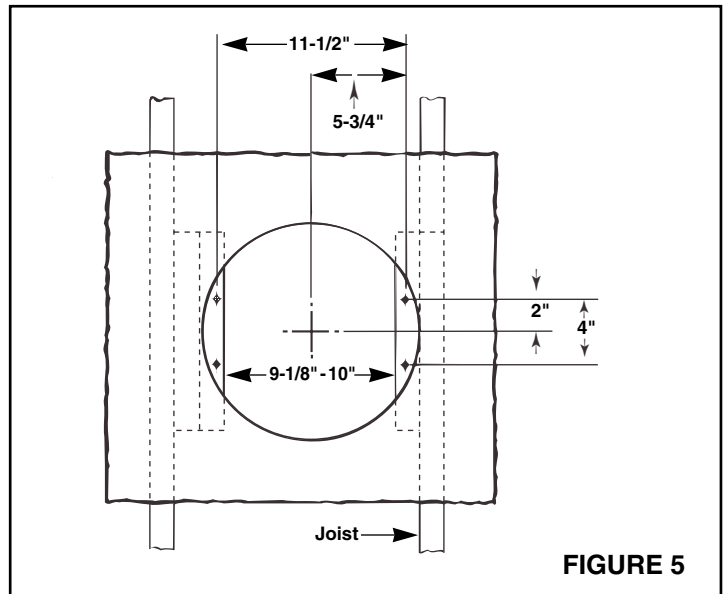

FIGURE 5
1. Refer to Figure 5. Run 120vAC house wiring from wall switches to fan location, neutral (white), ground (bare copper), and three switched hot leads.
7. **Refer to Figure 5.** Install 2 x 4 cleats to both ceiling joists. In some cases it may be necessary to use more than a single cleat on one side. The distance between cleats must be at least 9 1/8" but not more than 10".